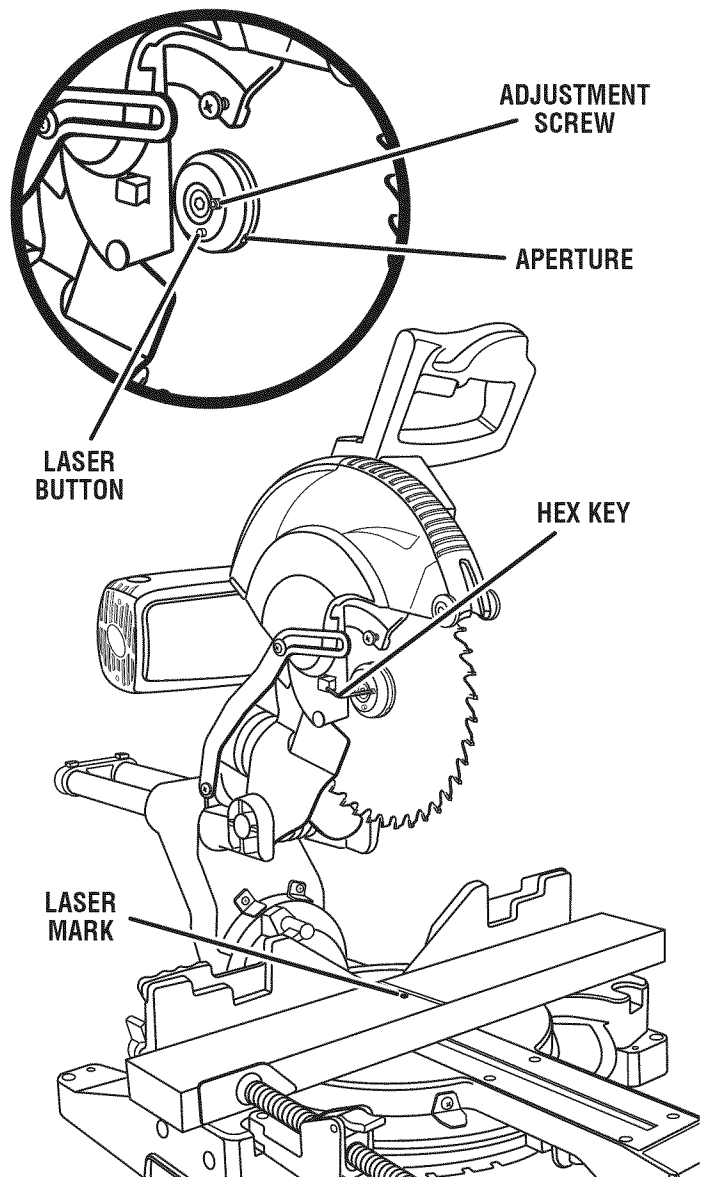

Fig. 52
See Figure 52.
- Rotate the blade by hand until you can push and hold the laser button and the laser is near the center of the workpiece as shown in figure 52.
- To adjust the laser, turn the adjustment screw counterclockwise or clockwise using the hex key (1/16 in.) provided.
- Once aligned, remove and store the hex key (1/16 in.), and lower the blade guard.